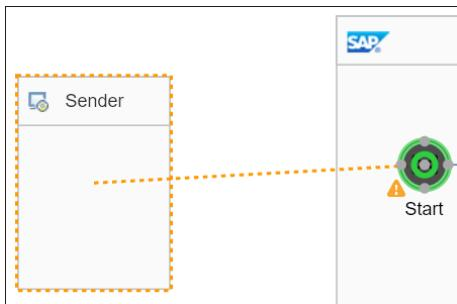

Figure 2.25 Creating a Connection between Sender and Start Event
2. Select the arrow icon, and drag and drop it to the integration flow start event (an orange dashed line will track your path) (see Figure 2.25).